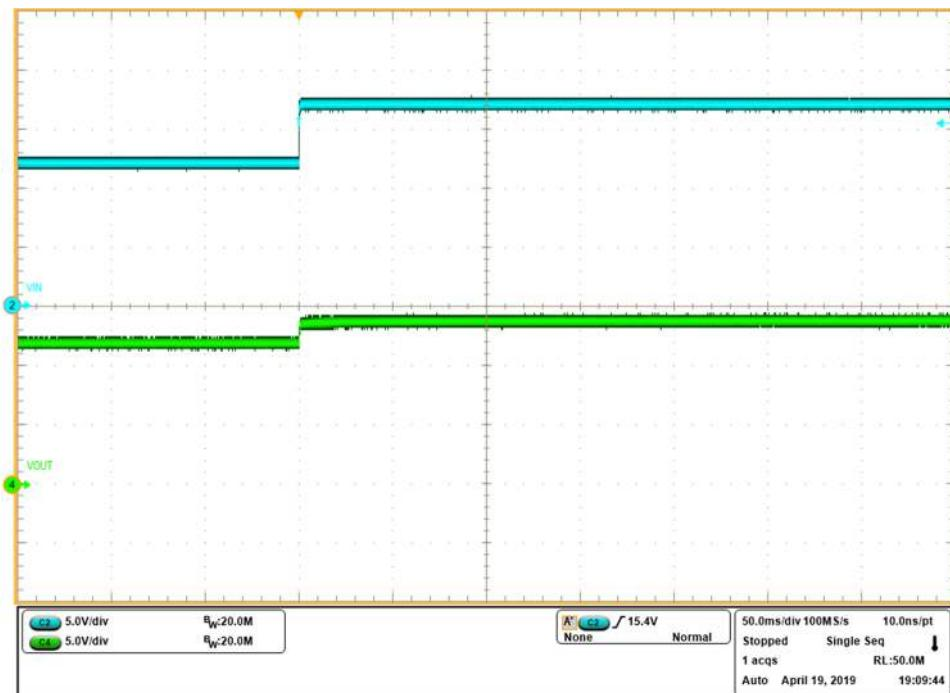

Figure 5. J3 = 1-2, Overvoltage Test (CH1)
3. Adjust the VIN1 power supply voltage to a value less than output clamp threshold and turn it ON. Increase the VIN1 power supply voltage to a value above the clamp threshold. The level of the output voltage clamp should match with the clamp threshold (based on the respective jumper setting), as shown in Table 10. Figure 5 shows the overvoltage test for jumper setting, J3 = 1-2.